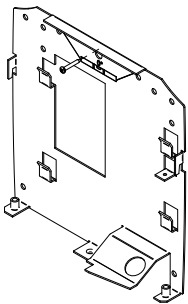

FIG. 1
1. Determine the location of the hand dryer and screw the central anchor screw without tightening completely. (FIG. 1)
MECHANICAL SUPPORT NOT SHOWN FOR MORE CLARITY (FIG.1,2 & 3)
- Remove screw and slide out the board. (FIG.1)